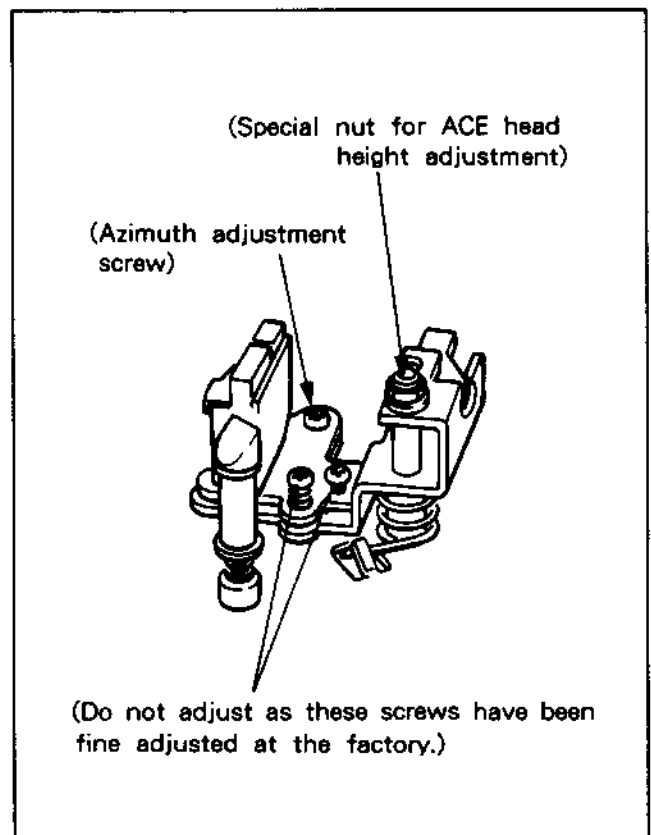

Fig. 5-4-7. Compl Head Bracket
- (1) Height Adjustment and Azimuth Adjustment. (See Fig. 5-4-7.)